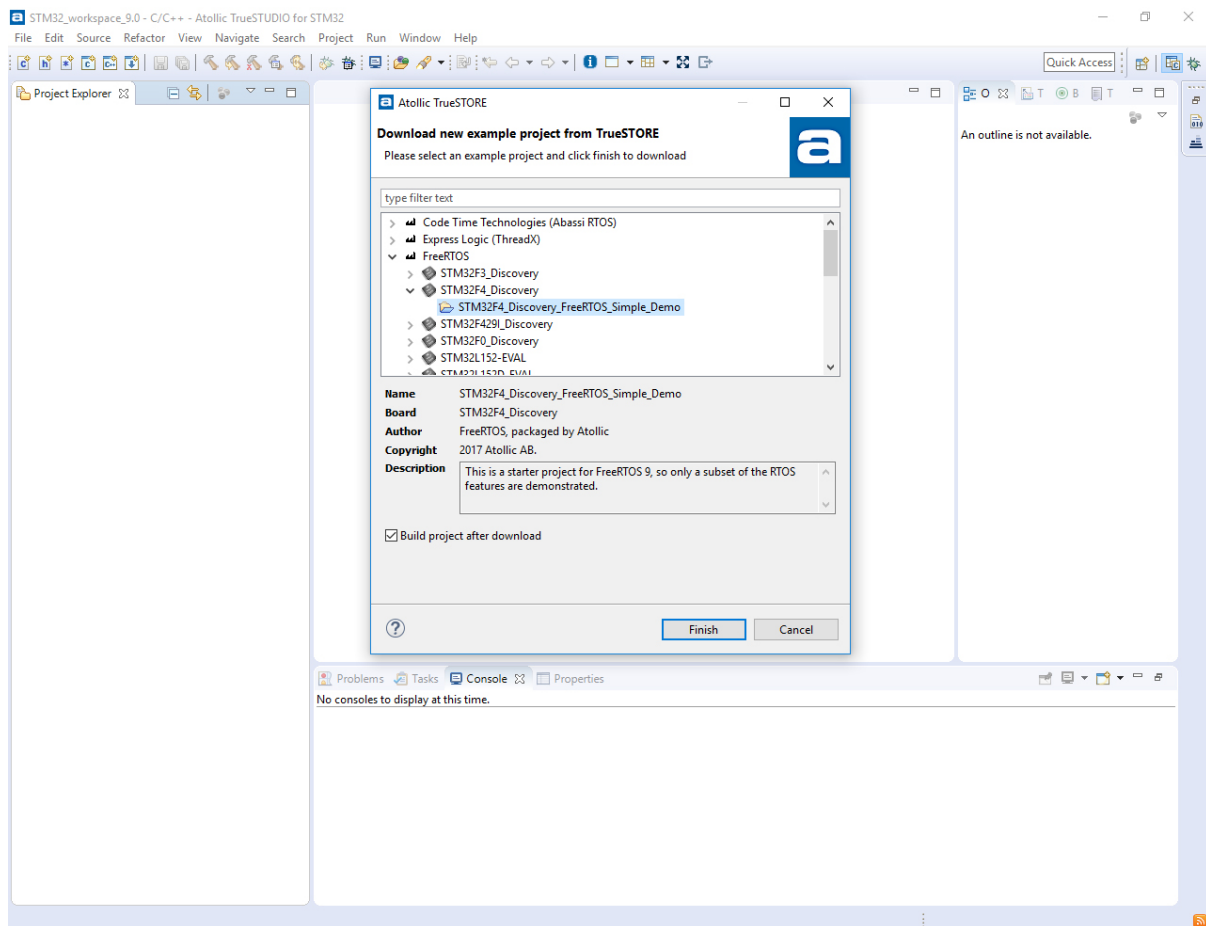

Figure 1. Download a sample FreeRTOS project from TrueSTORE.
3. Select **FreeRTOS**, select **STM32F4\_Discovery** and select the **STM32F4\_Discovery\_FreeRTOS\_Simple\_Demo**. Make sure that the option “build project after download” is checked (see Figure1). Click on Finish button.